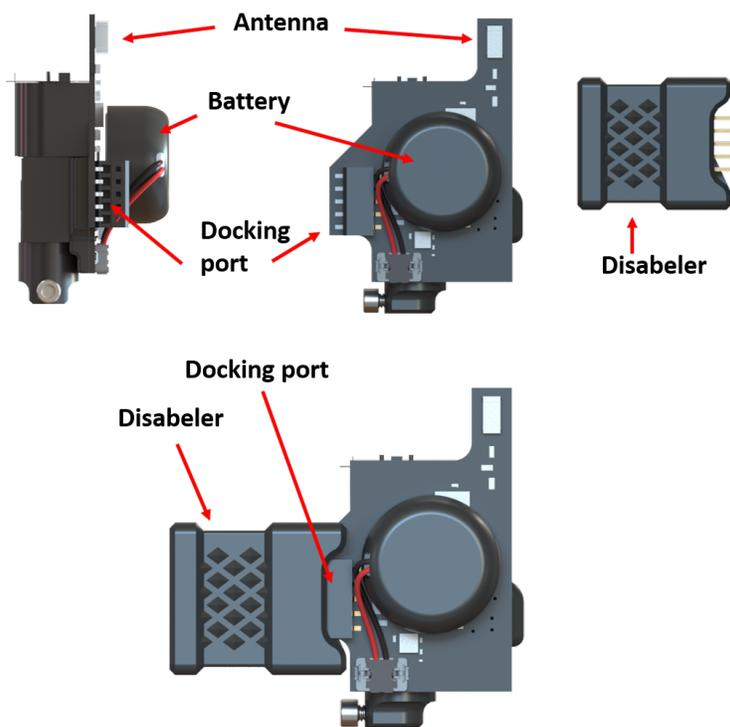

Figure 1.3: Headstage and disabler
The *Wireless Headstage* (Fig. 1.3) is an optic-electronic device that creates the link between the fiber optic cannula and the base-station. It contains LED drivers, two LEDs of choice (isosbestic + biosensor excitation), and a detector to both send light pulses for illuminating the fluorophores and collect the emission wavelengths. The headstage also uses a battery to power the LEDs.
- The **Antenna** (Fig. 1.3) is a small ridge on the side of the headstage used to transmit wireless photometry signal.
- The **Battery** serves as the power source for the headstage operation. Two battery options are available: Type A and Type B, each offering different charge durations and weights. For details, refer to the specification tables below (Tables 3.1, and 3.3). Once the battery is assembled to the headstage, it is ideal to not disconnect it in order to increase the longevity of the device. Indeed, more than 20 disconnect-reconnect cycles can significantly loosen the connector on the headstage. Once the experiment is finished, to save the remaining power of the battery, the headstage should be connected to the battery charger base or the disabler (Fig. 1.3). Otherwise, the headstage will continue to search for wireless connections and deplete the battery.
- The **Headstage connector** (Fig. 1.3), found on the underside of the headstage, links it to the 2.5 mm ferrule cannula via a small screw.
- The **Docking Port** (Fig. 1.3) is used by the *Headstage Charger* to recharge the headstage battery, as well as reprogramming it if necessary.
- The **Disabler** (Fig. 1.3) is used to disable the wireless connection to reduce battery degradation when the headstage is not used.